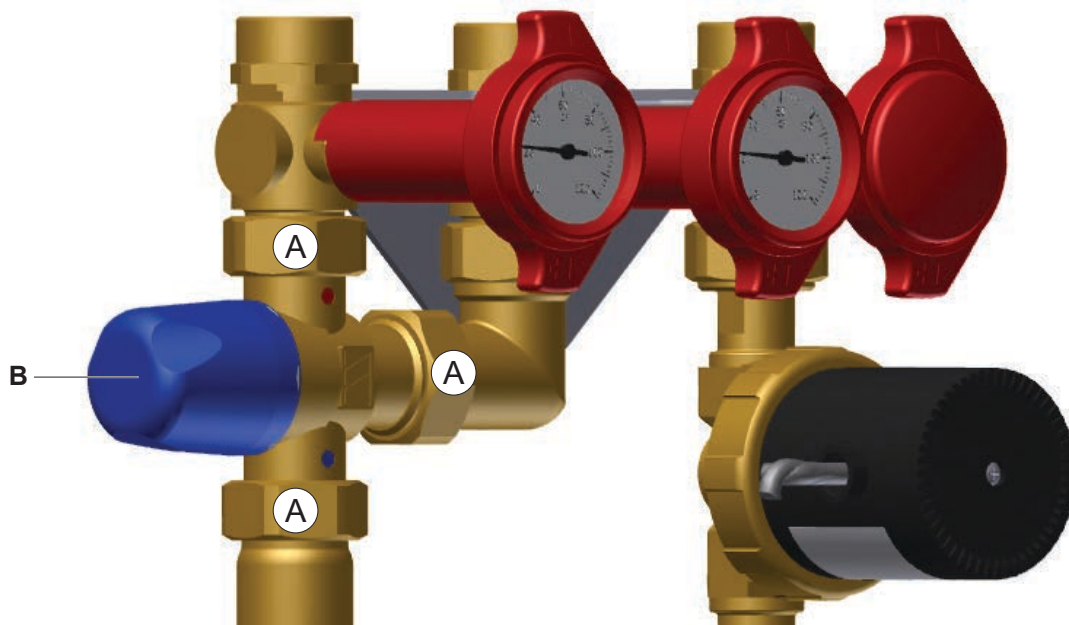

Fig. 6: Dismantling the thermostatic mix valve
- Position the thermostatic mix valve (Pos. B, see fig. 6 on page 14) and firmly screw in the nuts (Pos. A, see fig. 6 on page 14) (Tightening torques, see „Technical Data“ on page 16).